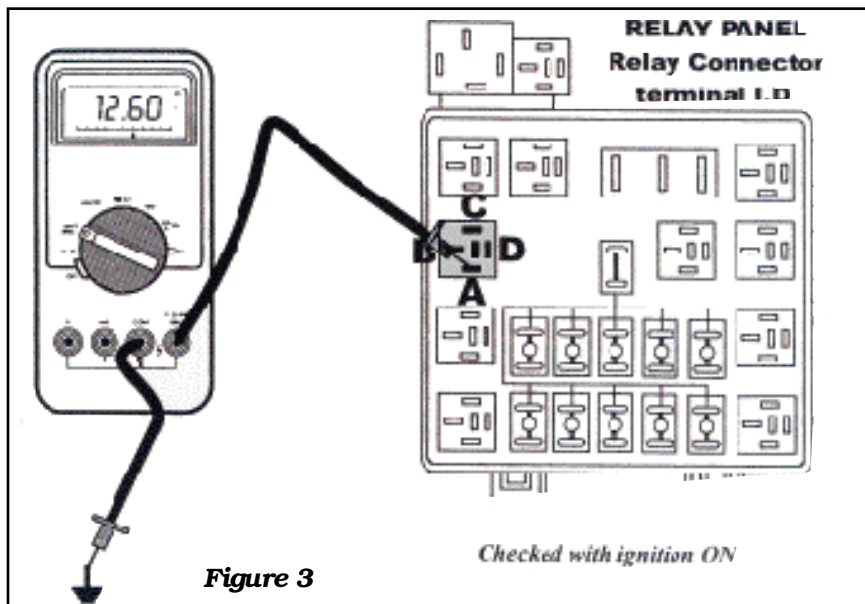

Figure 3
Now turn the ignition ON. Recheck the remaining two identified terminals (See Figure 3). The one that has voltage with the ignition ON is Terminal A. The remaining terminal is the ground terminal (C).